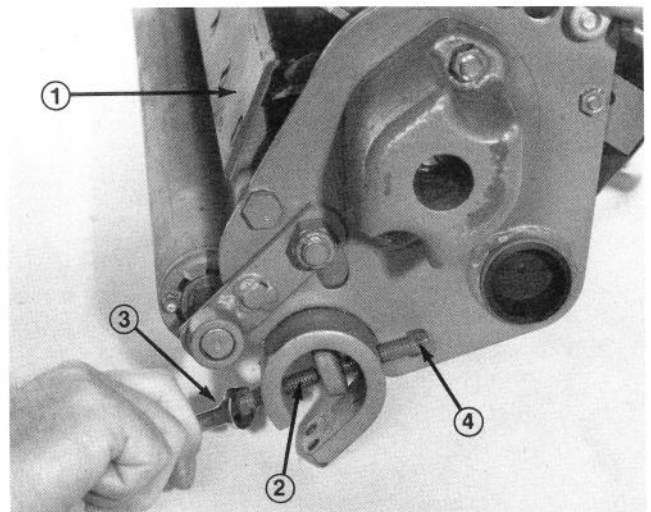
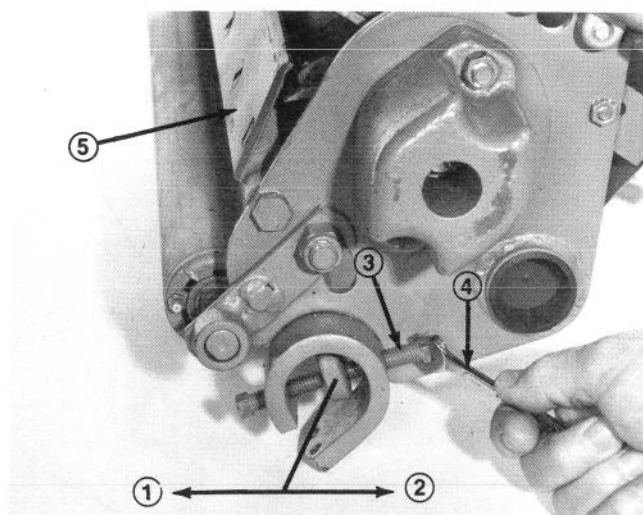

Figure 1
Figure 2
1. Adjustment of bedknife to reel is accomplished by first, loosening bottom screw on each side of cutting unit (Fig. 1), then tightening the top adjustment screw on each side of cutting unit (Fig. 2). This adjustment will position the bedknife closer to the reel blades.
- After adjusting bedknife to reel, make sure that both the top and the bottom adjustment screws are secured on both ends of the cutting unit (Fig. 1, 2).